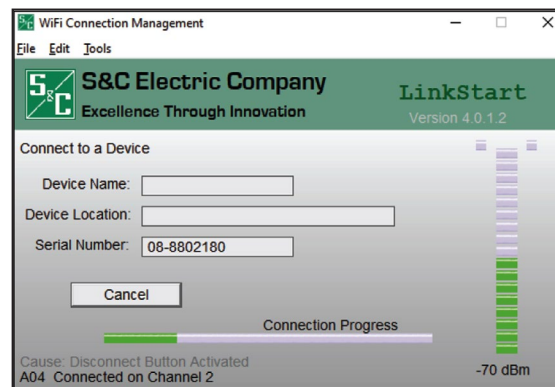

Figure 15. The Wi-Fi connection Management dialog box.
STEP 4. For Wi-Fi connections, LinkStart software starts and the device serial number must be entered in the **Serial Number** field. Then, click on the **Connect** button. See Figure 15.